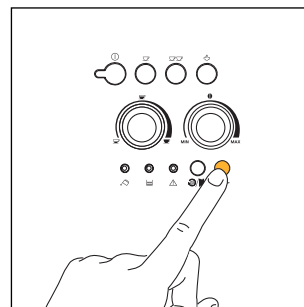

Fig.18
1. Press the ☕ button to select the ground coffee function (Fig. 18). The light inside the button switches on to indicate that the function has been selected and the coffee grinder has been disabled.